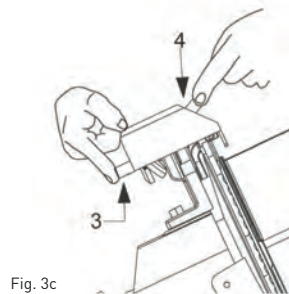

Fig. 3c
- push buttons simultaneously for 3/4 seconds (1 and 2, Fig 3c) and then leave them simultaneously;